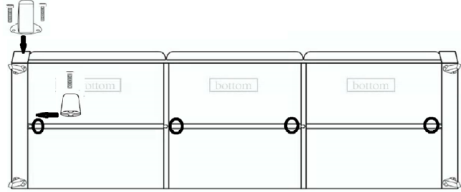

Figure 1
2. Remove the legs from the zipped compartment found in the bottom of the product. Attach the timber legs with 2 bolts and the plastic legs with 1 bolt as per the locations below in Figure 1. Carefully rotate the product to the upright position once all legs are attached.